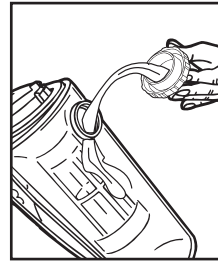

Fig.3/6
3. Pour 2 capfuls of Vax AAA Carpet Cleaner or Vax Multi Floor Hard Floor Cleaner concentrate into solution bottle cap. Fig 3/5 and 3/6.